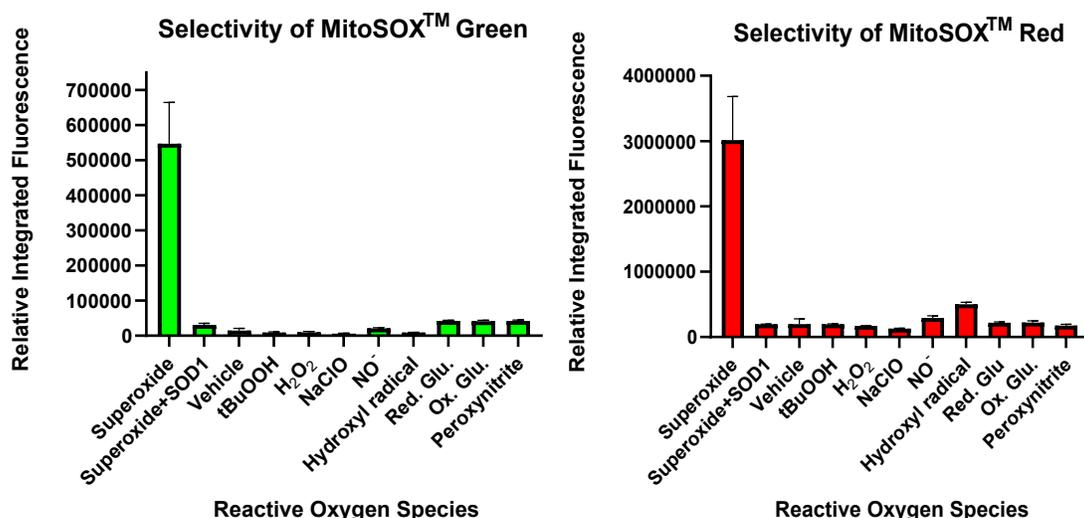
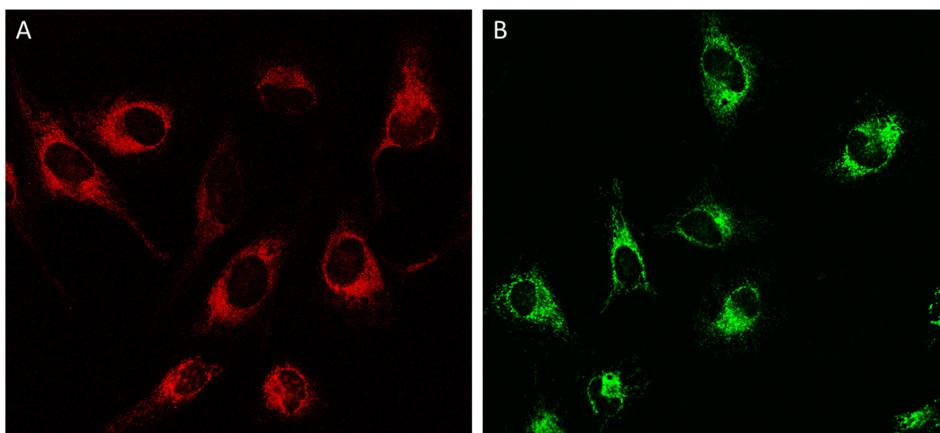

Figure 1 Selectivity of MitoSOX™ Green and MitoSOX™ Red Mitochondrial Superoxide Indicators.
Figure 3 Positive control.
The Invitrogen™ MitoSOX™ Green and MitoSOX™ Red Mitochondrial Superoxide Indicators are novel fluorogenic dyes for the highly selective detection of superoxide in the mitochondria of live cells (see Figure 1 and Figure 3). MitoSOX™ Green (MSG) reagent and MitoSOX™ Red (MSR) reagent are live-cell permeant which rapidly and selectively target the mitochondria. Once in the mitochondria, the MSG reagent or MSR reagent are oxidized by superoxide and exhibit bright green or red fluorescence, respectively. The production of superoxide by mitochondria can be visualized in fluorescence microscopy (see Figure 3). The MSG reagent or MSR reagent are readily oxidized by superoxide but not by other reactive oxygen species (ROS)- or reactive nitrogen species (RNS)-generating systems, and oxidation of the probe is prevented by superoxide dismutase as well as superoxide scavengers.
1. (*Optional positive control*) To induce the superoxide, cells can be incubated with 30 μ M MitoPQ (Abcam, Cat. No. ab146819) in low-glucose media. Incubate cells with 30 μ M MitoPQ for 18 hours, wash the cells, then proceed to step 1 (see Figure 3).